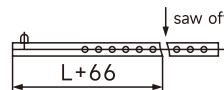

Figure 24
(2) As shown in Figure 24; After measuring the length of (L+66)mm at the pin end of the extended shaft, saw off the excess length.